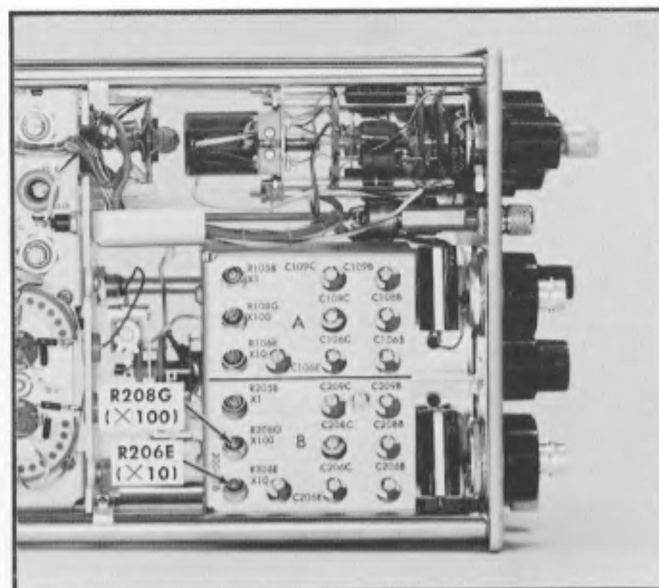

Fig. 5-38. Steps 29j and 30e adjustment locations.
j. Adjust R206E (see Fig. 5-38) so the trace is returned to graticule center.
30. Adjust R208G (Input B 100X Attenuator) ①
e. Adjust R208G (see Fig. 5-38) to center the trace.